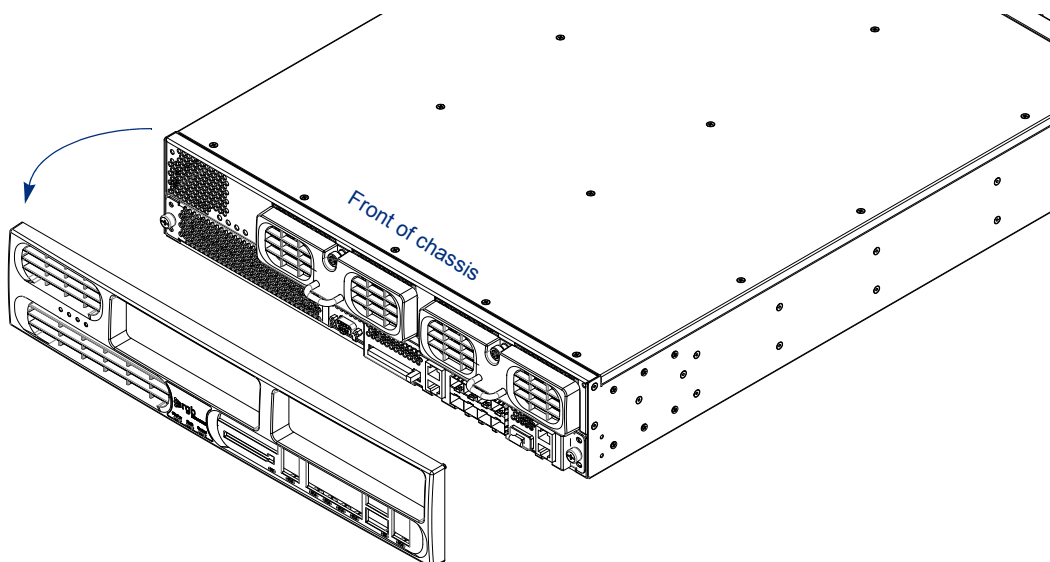

Figure 294. Front bezel removal
3. Grasping it firmly with your fingers, gently remove the bezel on the front of the chassis, as shown in Figure 294.